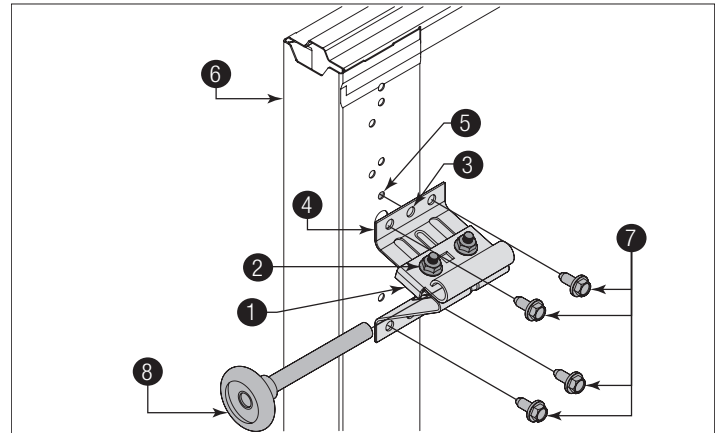

Figure 29, Left Side Shown
**IMPORTANT:** Ensure the top fixture slide (1) is able to slide along the top fixture base. If needed, loosen the 1/4" - 20 flange hex nuts (2).
**See Figure 29 for the following steps.**